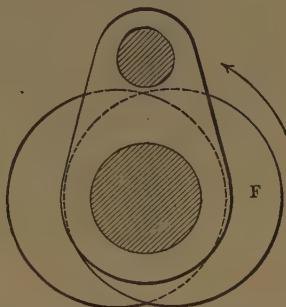

Fig. 107. Two Eccentrics,
A. Each should be run back of the crank-pin (in the opposite direction from that which it is required to run the engine) 90° . (See figure 107, in which the forward eccentric is marked "F.")